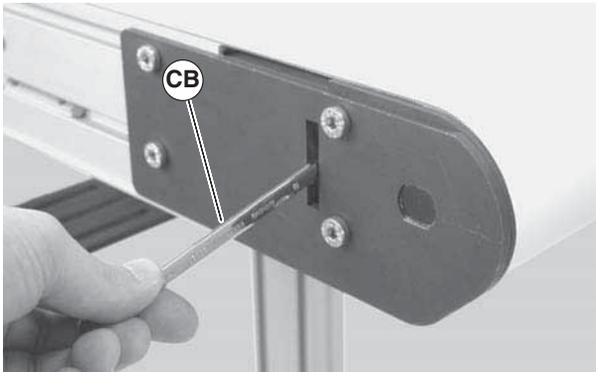
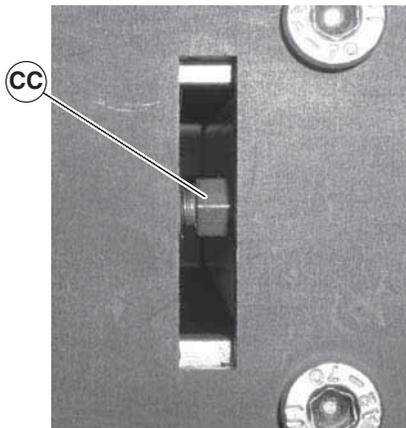

Figure 47
Figure 48
2. With the conveyor running, use wrench (Figure 47, item CB) to rotate the tracking screw (Figure 48, item CC) in small increments until the belt tracks in the center of the conveyor.